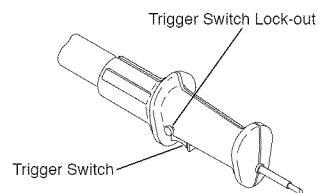

Figure 10 - Pole Saw Handle with Trigger Switch
4. When ready to make a cut, press in trigger switch lock-out and squeeze trigger switch (see Figure 10, page 12). This will turn Pole Saw on. Releasing trigger switch will turn Pole Saw off. Make sure Pole Saw is running at full speed before starting a cut.